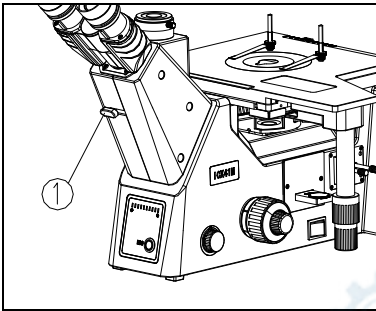

Fig. 15
Shift the optical way by moving the block ①. When the block is at most left, the prismatic is 0:100(binocular: trinocular), the light is exactly for third-tube out-put. When the block is at most right, the light is all for binocular. (Fig. 15)